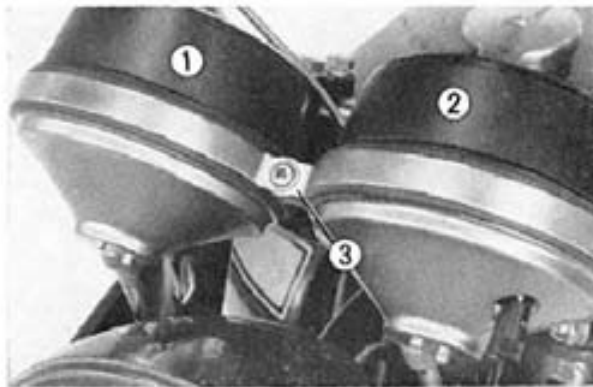

Fig. 16-2 ① Tachometer ② Speedometer ③ Setting screw
3. Loosen the meter setting screw and remove the meter from the meter bracket. (Fig. 16-2)